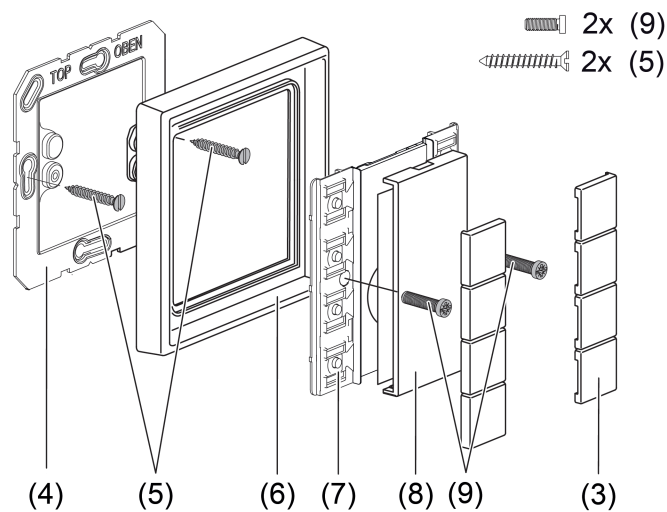

Figure 2
- Carefully remove cover (8) from wall transmitter (figure 2).
- Snap on the cover (8).